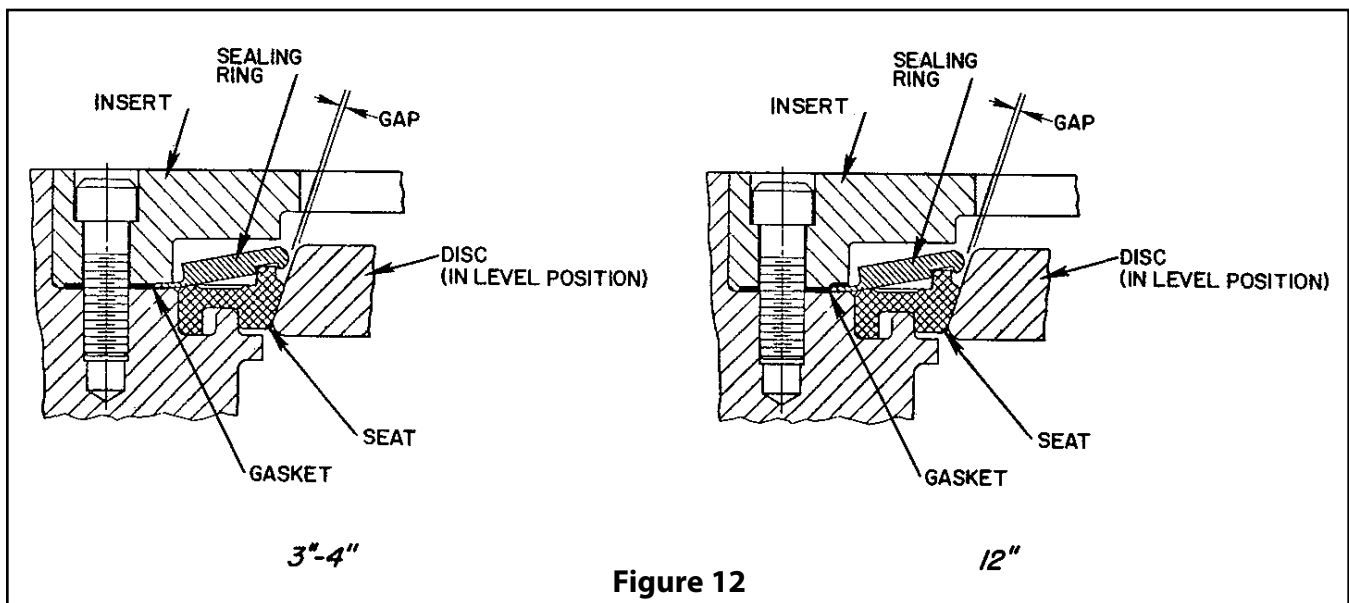

Figure 12
11. For 3", 4" and 12" sizes, a gasket is required between the insert and body as shown in (Fig. 12). On 3" and 4" valves, the precut gasket must be placed so that the holes line up with the insert screw holes. The 12" valve uses a graphite tape gasket. This tape is installed in accordance with the following steps: